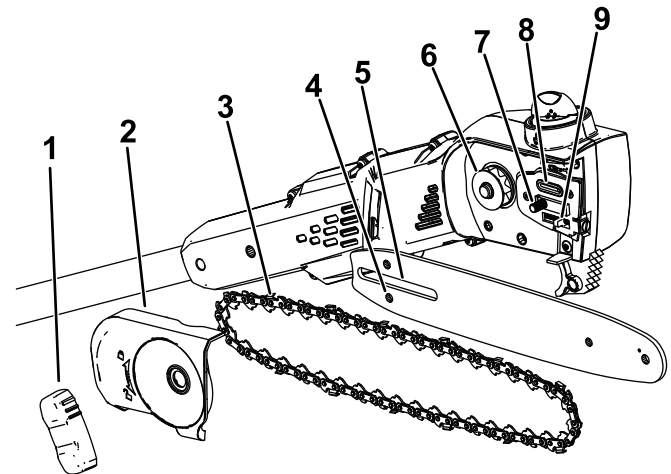

Figure 19
- Remove the side cover; turn the bar cover knob counterclockwise until the knob is removed and then remove the side cover (Figure 19).
- Check the oil outlet (Figure 19) for debris and clean the area if necessary.
Important: Ensure that the chain adjusting stud is inserted into the chain adjusting stud slot on the guide bar (Figure 19). You may need to rotate the chain-tensioning screw to fit the stud into the hole in the guide bar.